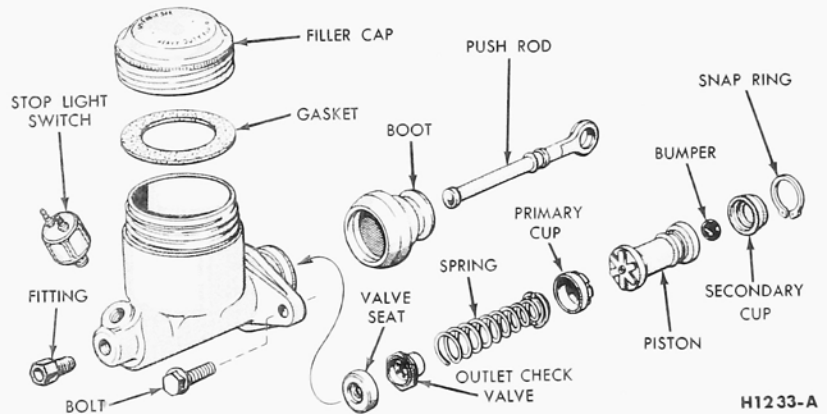

FIG. 16—Typical Brake Master Cylinder F-250 Trucks
3. Remove the brake bolt, fitting, and gaskets from the forward end of the cylinder (Fig. 16 or 17). Remove the snap ring from the bore at the rear end of the cylinder and remove the stop plate, piston, cup, spring, check valve, and seat from the cylinder bore. If necessary, blow through the forward bolt hole to remove the parts.
2. Install the brake fitting, bolt, and gaskets (Fig. 16 or 17), on the